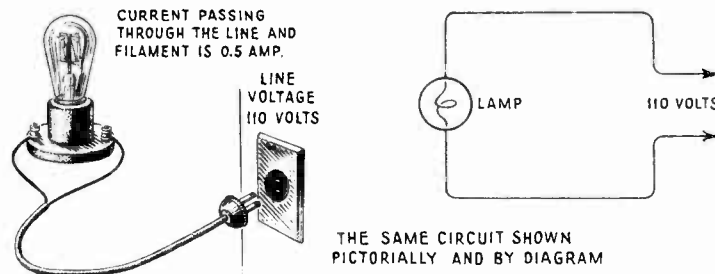

Figure 6
PROBLEM: Find the number of watts expended in the circuit of Figure 6 when the EMF is unknown, the current is 0.5 amperes and the resistance of the lamp is 240 ohms.
PROBLEM: Find the number of watts expended in the circuit of Figure 6 when the e.m.f. (E) is 120 volts and the current (I) drawn by the lamp is 0.5 amp.